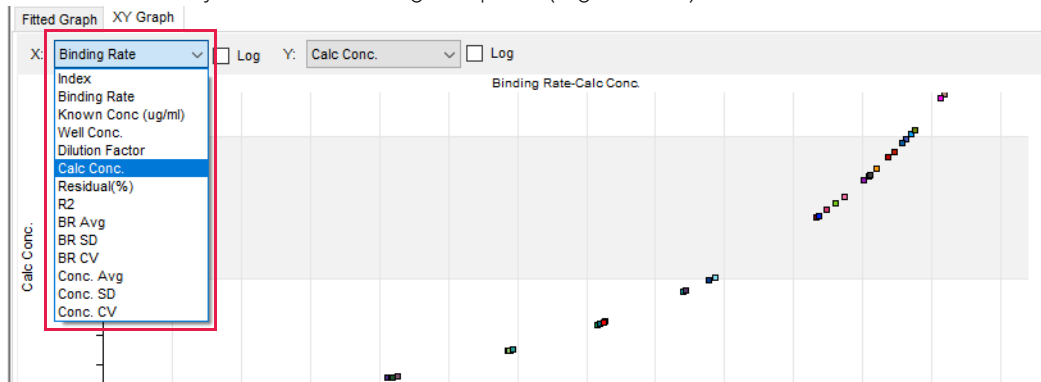

Figure 10-9: Variable Selection for X and Y Axis
- **Changing the x/y variables** - You can choose which variables to plot by selecting the drop down menu next to either the x or y axis and selecting an option (Figure 10-9).